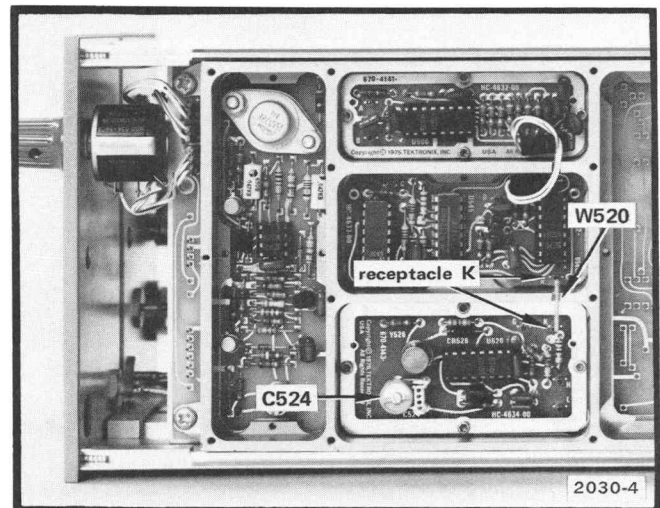

Fig. 4-2. Location of receptacle K, W520, and C524.
- Connect a frequency counter, through a 1X probe, to receptacle K or W520; and the Input to a vertical amplifier, through a 10X probe, to receptacle K or W250 (Fig. 4-2).
b. Adjust the Mode Adjust C524 (Fig. 4-2) so the 52.5 MHz oscillator starts at any position of the TRACKING ADJUST control as the power is turned off and on. (Power should be off long enough for the supply voltage to decay before switching back on.)